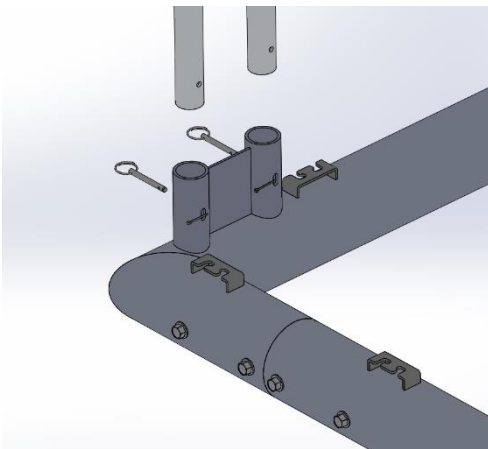

Figure 6
6. Attach the net stays by placing them in the net stay holders located on the two end frames. Fasten with (2) pins and secure with (2) cotter pins per side (Fig. 6).